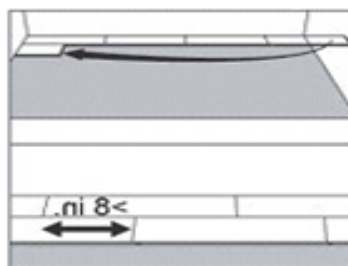

Figure2
5. Cut the final board piece to length, never less than 30cm/300mm. (Figure 2)
2. Position the long side of the first board in place overlapping the groove of the planks in the previous row by approximately 3mm. Then angle the end joint into the previous plank. Angle the plank up and gently push forward until the plank locks into the previous row. (Figure 2) Slide the board to the left/right as necessary to align the edges of the end joint.
7. Whenever practical, use cut pieces from previous rows as the starter board to reduce waste. (Figure 2)
8. Maintain 30cm/300mm spacing between end joints after the first four rows for best appearance. (Figure 2)